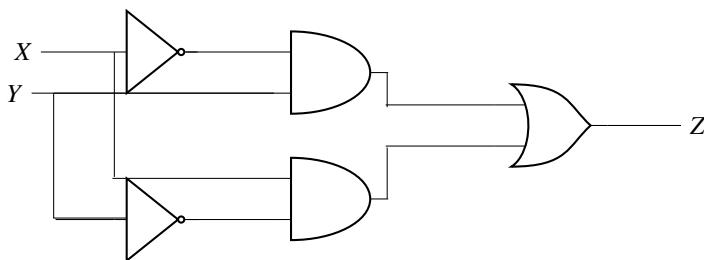

Fig. 3.26
44. In the circuit shown below in Fig. 3.26, X and Y are digital inputs, and Z is a digital output. The equivalent circuit is a